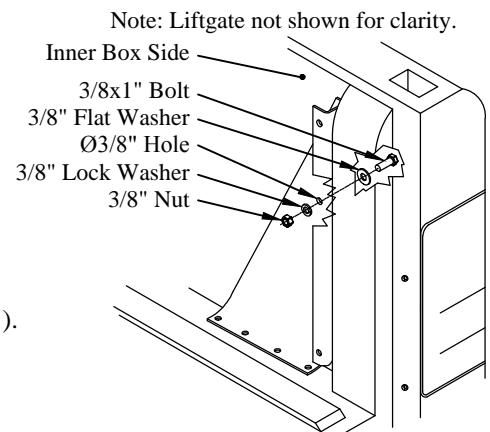

Figure 11: Additional support location.
1. **Locate** the existing 3/8" hole in the mounting bracket (Figure 11).
- (1) 3/8" lock washer and (1) 3/8" nut on the bracket-side (Figure 11).
- (1) 3/8"x1" hex head bolt and (1) 3/8" flat washer on the truck-side (Figure 11).